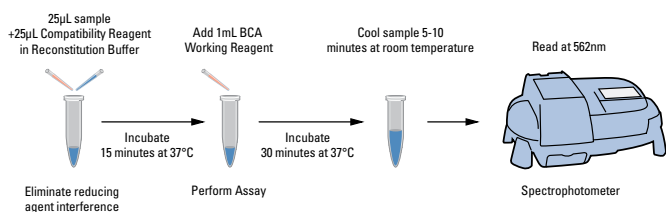

Figure 2. Thermo Scientific Pierce BCA Protein Assay – Reducing Agent Compatible protocol.
- Easy-to-use protocol (Figure 2)